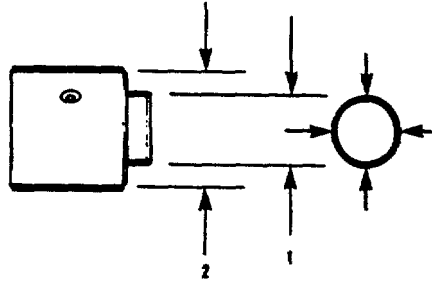

FIGURE 4-86a. *Camshaft Idler Shaft Measurement.*
- m. Check piston cooling nozzle (36) for cracks, bends, and other damage. Check spray holes for burrs. Do not remove pipe plug (34). Replace nozzle if damaged.
- n. Clean engine lifting fixture bracket (68), washer (69), and capscrew (70). Check for cracks, rust, and corrosion. Replace if damaged.
- (1) Check idler shafts for cracks, bends and other damage.
- (2) Measure camshaft idler shaft (47) outside diameter.
- (3) Verify outside diameter is between 0.9995 and 1.000 inch (25.397 and 25.400 mm) at location 1 in FIG. 4-86a. Verify outside diameter is between 1.8720 and 1.8740 inch (47.549 and 47.600 mm) at location 2.
- (5) Verify outside diameter is between 1.6995 and 1.7000 inch (43.167 and 43.180 mm) at location 1 in FIG. 4-86a. Verify outside diameter is between 1.8720 and 1.8740 inch (47.549 and 47.600 mm) at location 2.
- (6) Replace idler shafts if damaged or not to specifications.